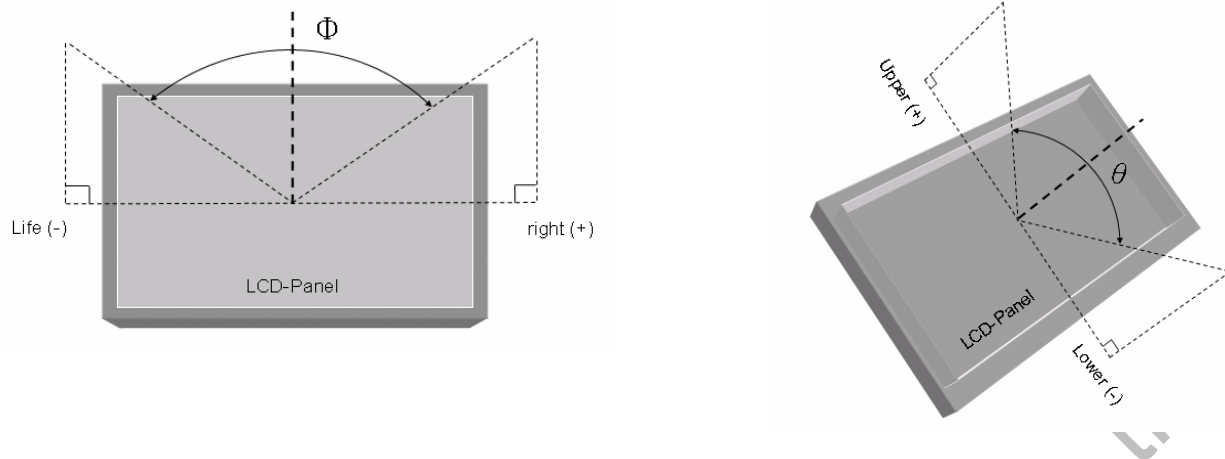

Fig.2 Definition of Viewing Angle
*3) Definition of Viewing Angle(θ, ψ), refer to Fig.2 as below :